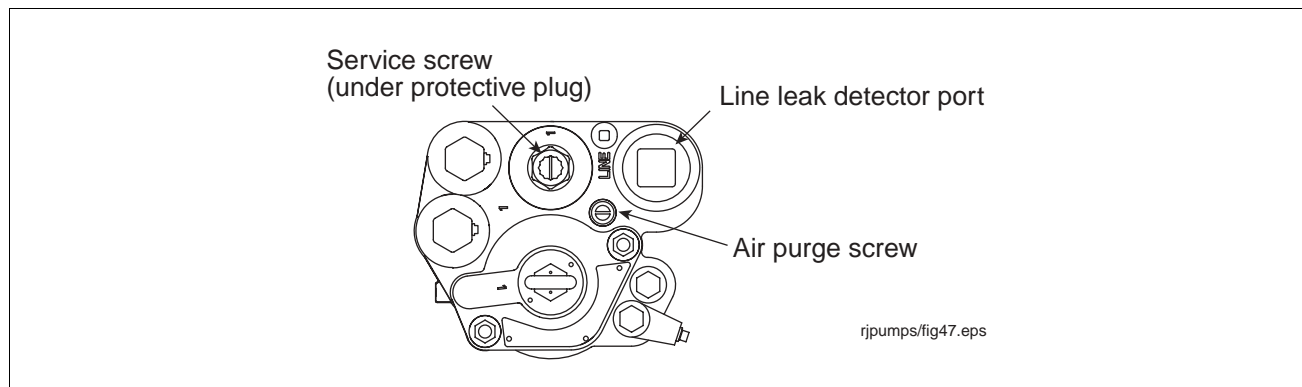

Figure 44. Locating discharge port plug for line leak transducer
5. Open the air purge screw 2 - 3 turns counterclockwise (see Figure 44).